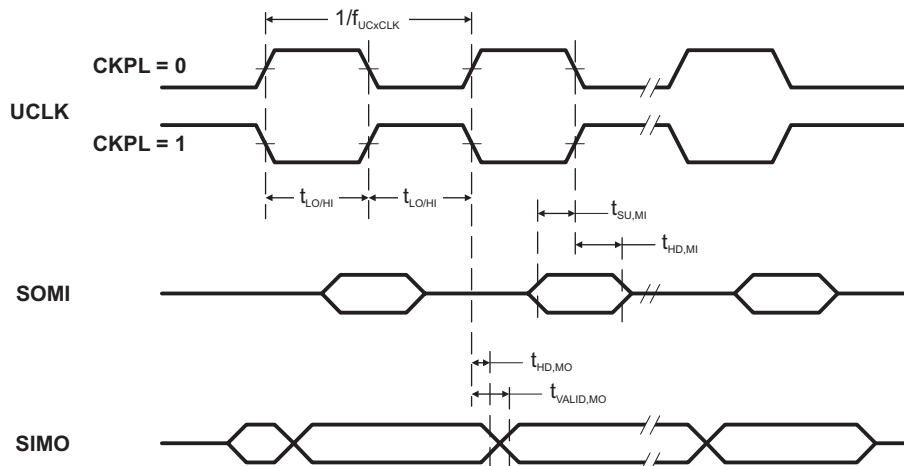

Figure 11. SPI Master Mode, CKPH = 0
(see Note ⁽¹⁾, Figure 11 and)
- (2) Specifies the time to drive the next valid data to the SIMO output after the output changing UCLK clock edge. Refer to the timing diagrams in Figure 11 and .
- (3) Specifies how long data on the SIMO output is valid after the output changing UCLK clock edge. Negative values indicate that the data on the SIMO output can become invalid before the output changing clock edge observed on UCLK. Refer to the timing diagrams in Figure 11 and .